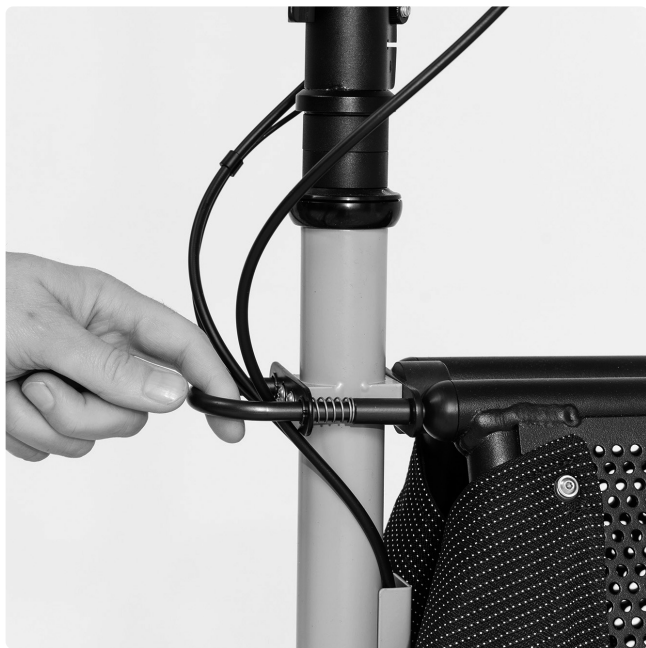

FIG. 51
- To open the basket pull slightly on the locking bar (Fig. 51). The basket opens without any further effort.